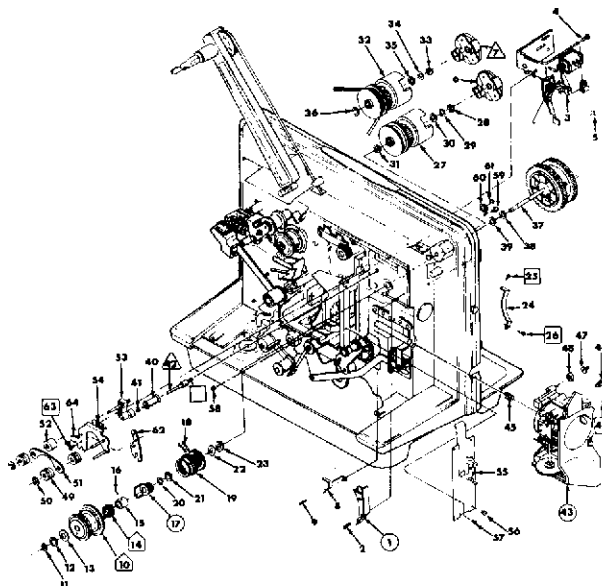

Figure 4
The tail of the Clutch Spring (6) is permanently trapped in a notch (N) in the Clutch Gear (14). The coil of the spring wraps around the arbor of the Clutched Gear (3). When the projector runs in any forward mode, the clutch gear rotates in a clockwise direction (as viewed from the back of the projector) pushing the tail of the spring to clamp it tightly around the arbor so the Clutched Gear (3) is directly driven by the clutch gear through the clamping action of the spring. The drive of the worm gear on the main shaft is thus directly connected to the Rewind and Fast Forward clutches (Figure 4, 27 & 32) through the clutch gear (14), clutch spring (6) and clutched gear (3).
## FAST FORWARD (Figure 4)